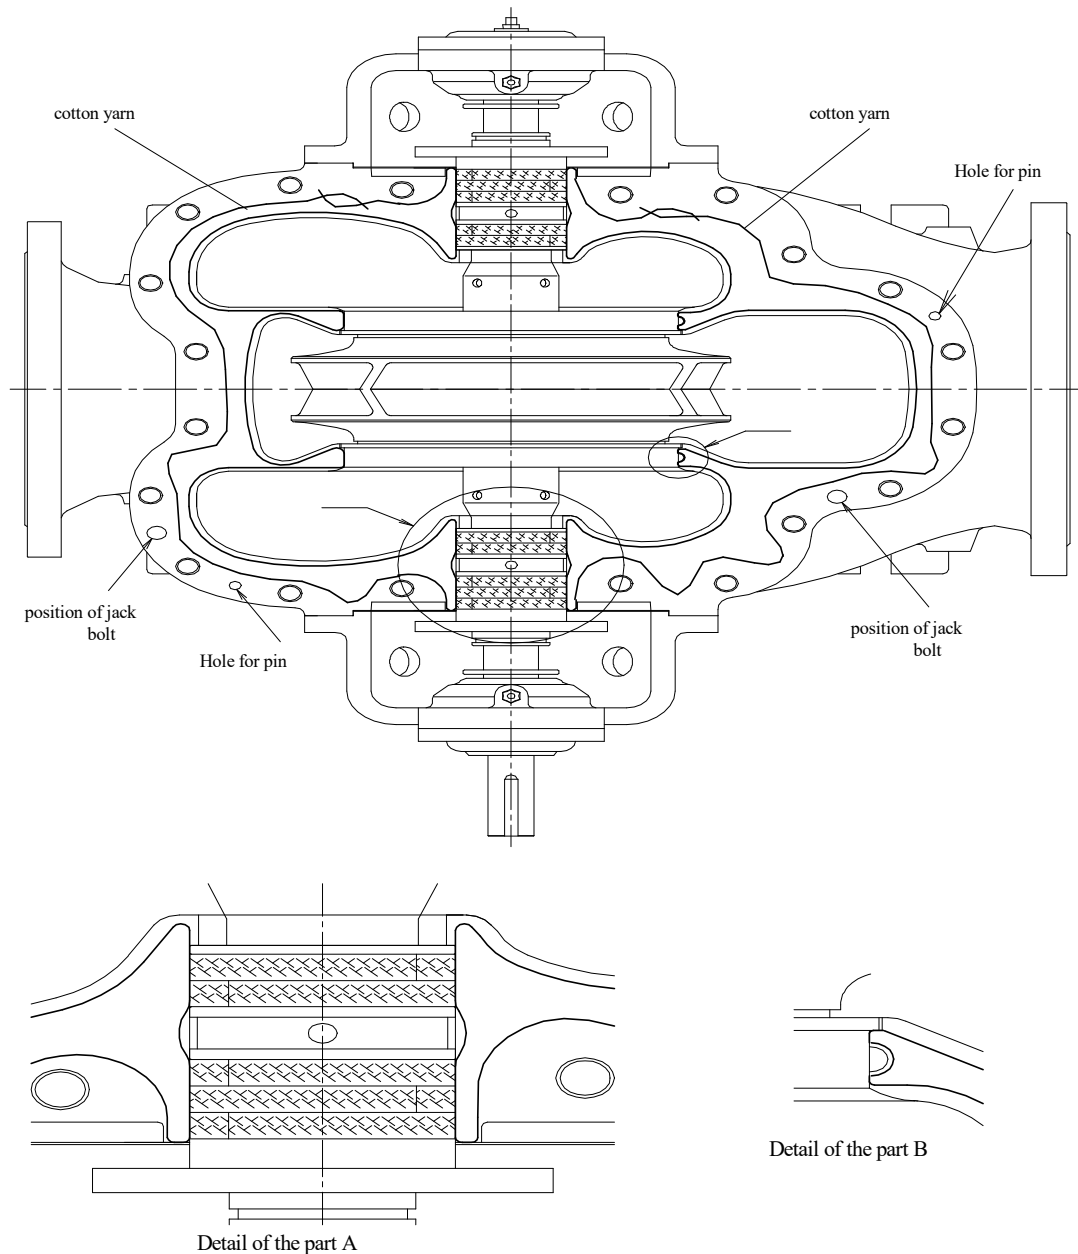

Fig.6-1 The way of putting the cotton
8. In the case of the bearing part type (B) and (C), Set key (9400.3) on shaft (2100). Fit the bearing bracket (3500) on the shaft (2100) together with the ball bearings (3210.1, 3210.2) and so on. If it's difficult, it may be necessary to heat the inner ring of bearing to facilitate its installation. Never use a hammer for this purpose.
9. Fit the adjust rings(5090) at the coupling side. Then fit the bearing washer (5502) on the shaft (2100) in the case of the bearing part type (B) and (C). After then fix the ball bearings (3210.1, 3210.2) by tightening the lock nuts (9233.1, 9233.2).
11. Set the key (9400.1) on the shaft (2100), then fit the pump side coupling on the shaft (2100).
16. Apply liquid packing on the mating surface of the casing lower half uniformly. The cotton yarn may be used by the case that the discharge pressure is high. So, if the cotton yarn was used at the time of disassembly, put on the cotton yarn as the string packing on the mating surface of the casing lower half referring to the sketch at the disassembly or the Fig.6-1. Be especially careful to putting the cotton yarn at the part of the stuffing box (Fig.6-1 Detail of the part A) and the notch for the set screws of the casing wearing rings (5020)(Fig.6-1 Detail of the part B).
lower half of the upper figure in the Fig.6-1. So, be sure to sketch the design of the cotton yarn at the time of the disassembly, and put it on the mating surface as same as shipping condition possible. At this time, be careful not to put it on the place where the jack bolts hit the mating surface of the casing lower half.